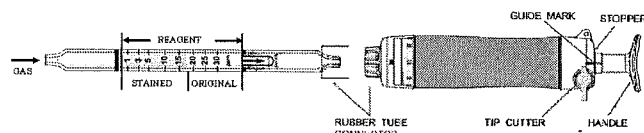

Fig.1
- ① Break both ends of the detector tube.
- ② Insert the detector tube into the aspirating pump securely as shown in Fig.1. (Arrow mark shall point to the pump.)
- ③ Align the guide marks on the shaft and stopper of the aspirating pump.
- ④ Pull the pump handle at a full stroke until it locks and wait for 1.5 minutes or until the completion of sampling is confirmed with the flow indicator of the pump. (See descriptions about the flow indicator in the instruction manual of the pump.)
- ⑤ Turn the pump handle right or left by 1/4 (90°), push it toward the pump without removing the detector tube from the pump, and repeat the step ③~④ once more.
- ⑥ On completion of sampling, read the scale at the maximum point of the stained layer.
- ⑦ When the concentration is below the scale range, 4 pump strokes can be used to determine concentrations of 0.5 to 12.5 ppm. Then correct the tube reading by correction table. (REFER TO ITEM 3. CORRECTION FOR AMBIENT CONDITIONS AND PUMP STROKE.)